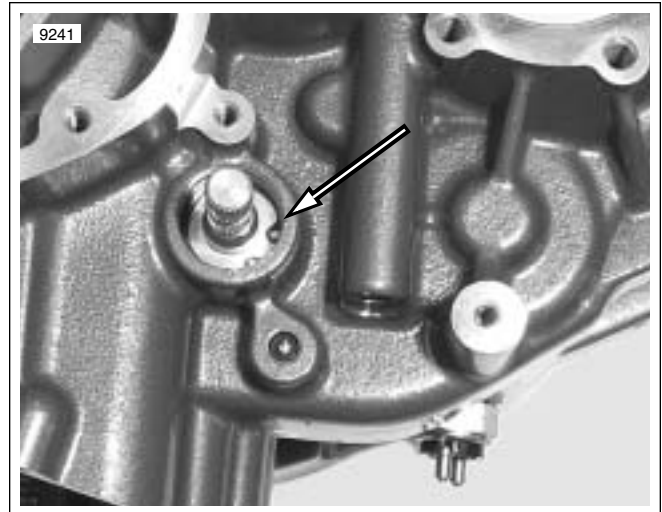

Figure 3-189. Shift Shaft Inner Retaining Ring
4. See Figure 3-189. With the shaft seal removed, the inner retaining ring (black) is exposed. Remove the retaining ring.